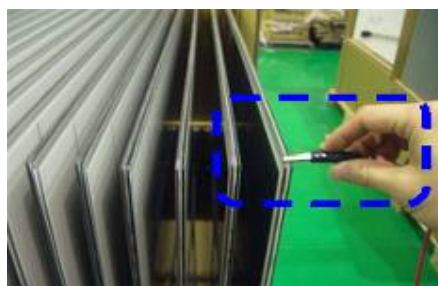

Figure 2
2. Use another metal wire (or conductor, B point) to connect each panel after unpacking as shown in Figure 2.